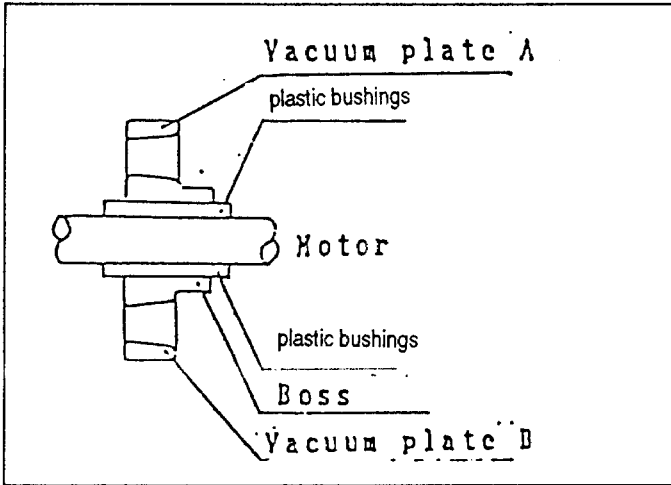

fig. 8
1. Put vacuum plate B (part #10) into screw case A (part #6). Boss will be on motor side. Female screw is on the vacuum plate B (fig. 8).